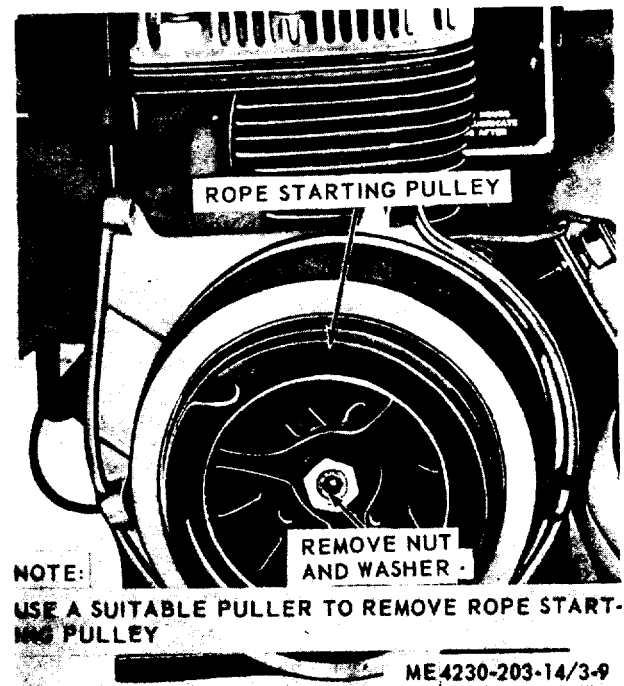

Figure 4-14. Rope starting pulley, removal and installation
a. *Removal.* Remove the engine shroud screen and refer to figure 4-14 and remove the rope starting pulley.
(1) Clean the pulley with solvent and dry thoroughly.
(2) Inspect for cracks, breaks, and other damage.
(3) Replace a damaged or defective rope starting pulley.